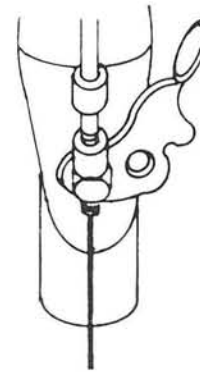

Figure 4a
- To loosen the front brake for folding, pull the front brake quick release tab so that it is pointing up. (Figure 4a)